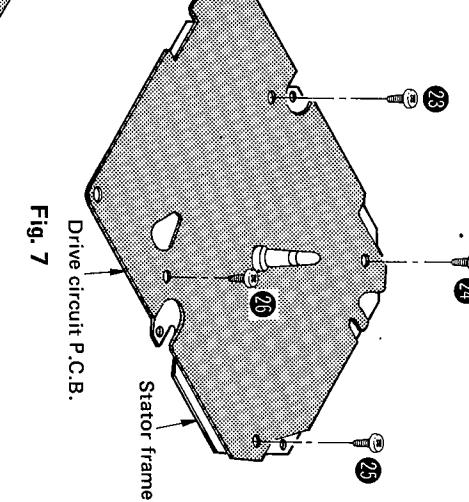

Fig. 7
4. Remove the 4 setscrews (Fig. 7 : ㉓ ~ ㉖) to separate the drive circuit P.C.B. and stator frame.